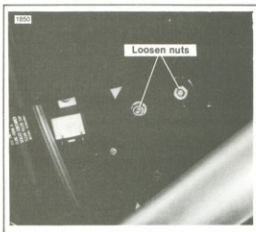

Figure 6-12. Starter Motor Frame
4. See Figure 6-12. Loosen two nuts securing starter motor.
8. See Figure 6-12. Tighten two nuts securing starter motor.